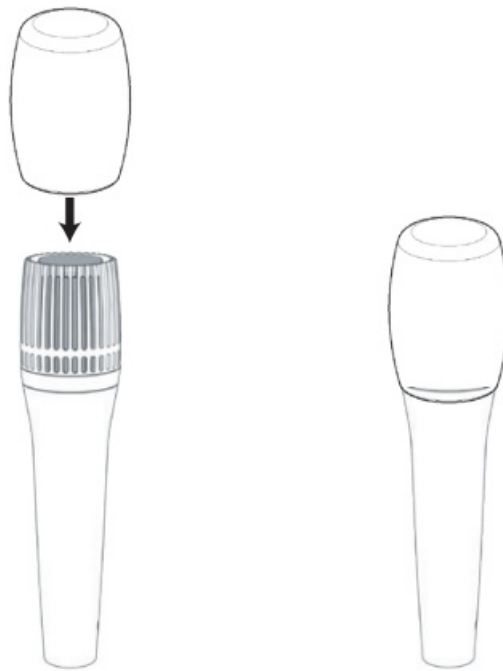

fig. 10
5. To increase the service life of the microphone when working with vocalists, it is recommended to use a windscreen (Fig. 10)